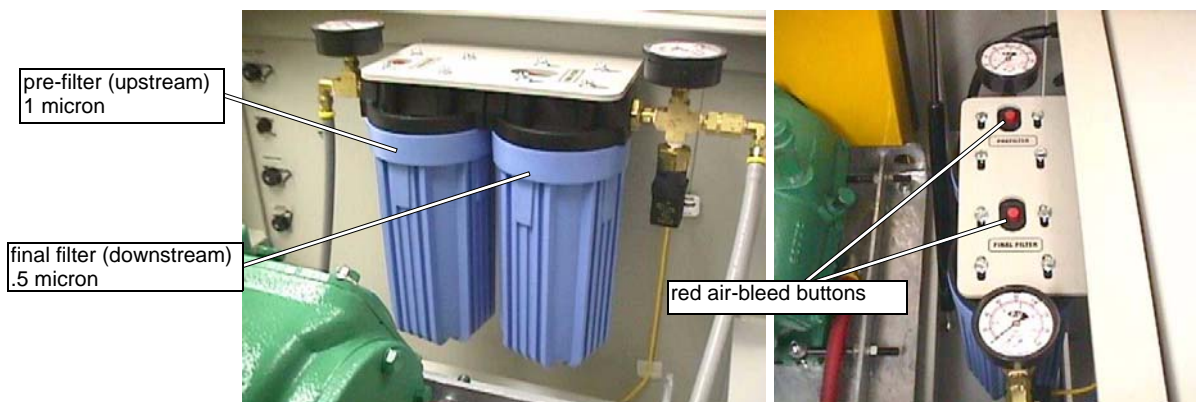

Figure 5-52: Low-pressure Water Filters with Pressure Gauges
The OMAX pump uses two filters for the low-pressure water from the water tank (Figure 5-52). Pressure gauges mounted on top of these water filters monitor the water pressure both before and after the two filters. When the pressure differences between these two gauges becomes greater than 20 psi (140 kPa), the filter cartridges need replacing.
10. Hold down the red buttons on top of the filters next to the pressure gauges (Figure 5-52) to bleed air from the filters.
13. Power ON the charge pump and bleed any air from the two filters by holding down the red buttons on top of the filters to bleed air from the filters (see Figure 5-52).